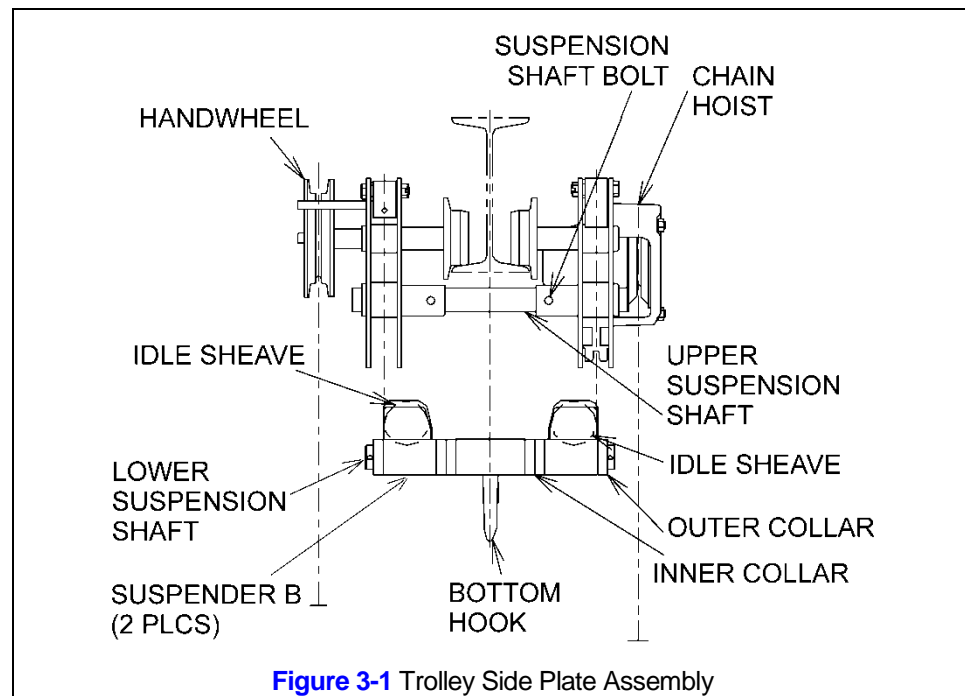

Figure 3-1 Trolley Side Plate Assembly
- 3.1.2 To adjust the Upper Suspension Shaft reference Figure 3-1 and Table 3-2. Proceed with the following instructions:
- 3.1.3 To adjust the Lower Suspension Shaft reference Figure 3-1 and Table 3-3. Proceed with the following instructions:
2. To make the adjustment, replace the inner and outer collars as shown in Figure 3-1.